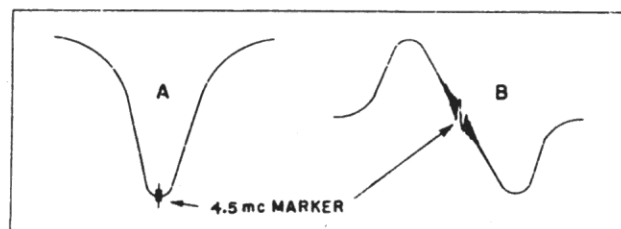

Fig. 23. Sound Alignment Curves
3. With the oscilloscope connected at the limiter tube grid, L341 is adjusted visually for maximum amplitude and symmetry of the curve about the 4.5 mc marker as shown in Figure 23, curve A.
4. The secondary of T341 is adjusted for the curve shown in Figure 23, curve B. This should produce as straight a slope as possible between the two peaks with the 4.5 mc falling at the center of the slope. The marker at this point will be broad, necessitating interpolation.
5. The primary of T341 is adjusted for maximum amplitude, consistent with a straight slope between peaks, of the curve shown in Figure 23, curve B.